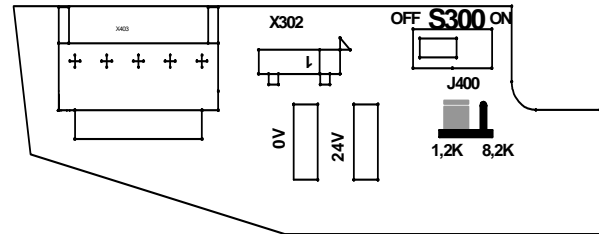

Fig. 10: Location S300
**IMPORTANT** For the TST WU door controller to automatically query the parameters, DIP switch S300 must be turned on (S300 location see Fig. 10: Location S300).